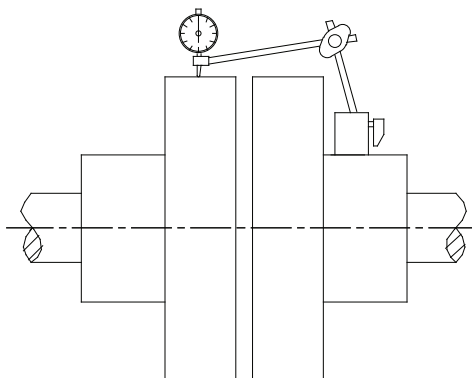

Figure 4.3 – Alignment and Calibration of Pumping Unit
5. Check the alignment of the pump and motor. Align and calibrate the unit with a level if needed (see Figure 4.3).